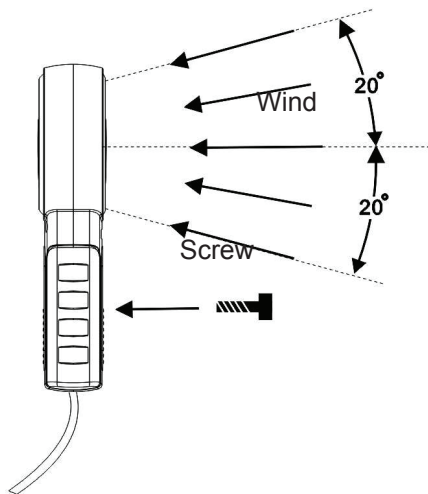

Figure 4
Measuring For Wind Speed (Wind Count) (see figure 4)
2. Press VEC / FLOW (figure 4) to conduct function switch. LCD shows either " VEL " or " FLOW "
4. See figure 4 for example of wind speed measurement. Follow the wind direction labeled on the unit. **WARNING** - do not use the unit backwards, especially if utilizing the mounting screw (not included).